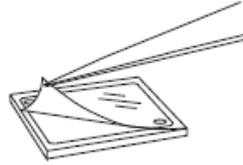

Figure 1
2. Use a forceps to peel off the thin adhesive liner on the gasket surface as shown in Figure 1.